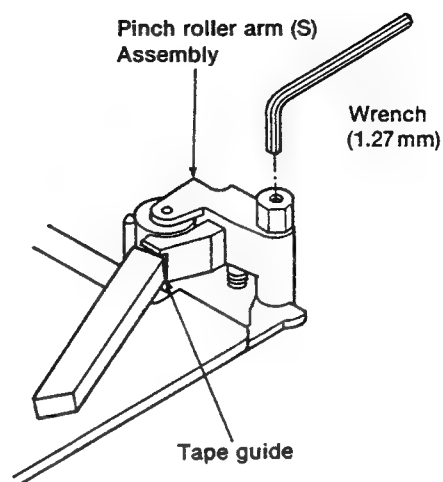

Fig. 5
7. Then, with the check bar, make sure that the check bar does not come in contact with the tape guide. If it does, turn the screw as shown in Fig. 5 until the check bar does not come in contact with the tape guide.